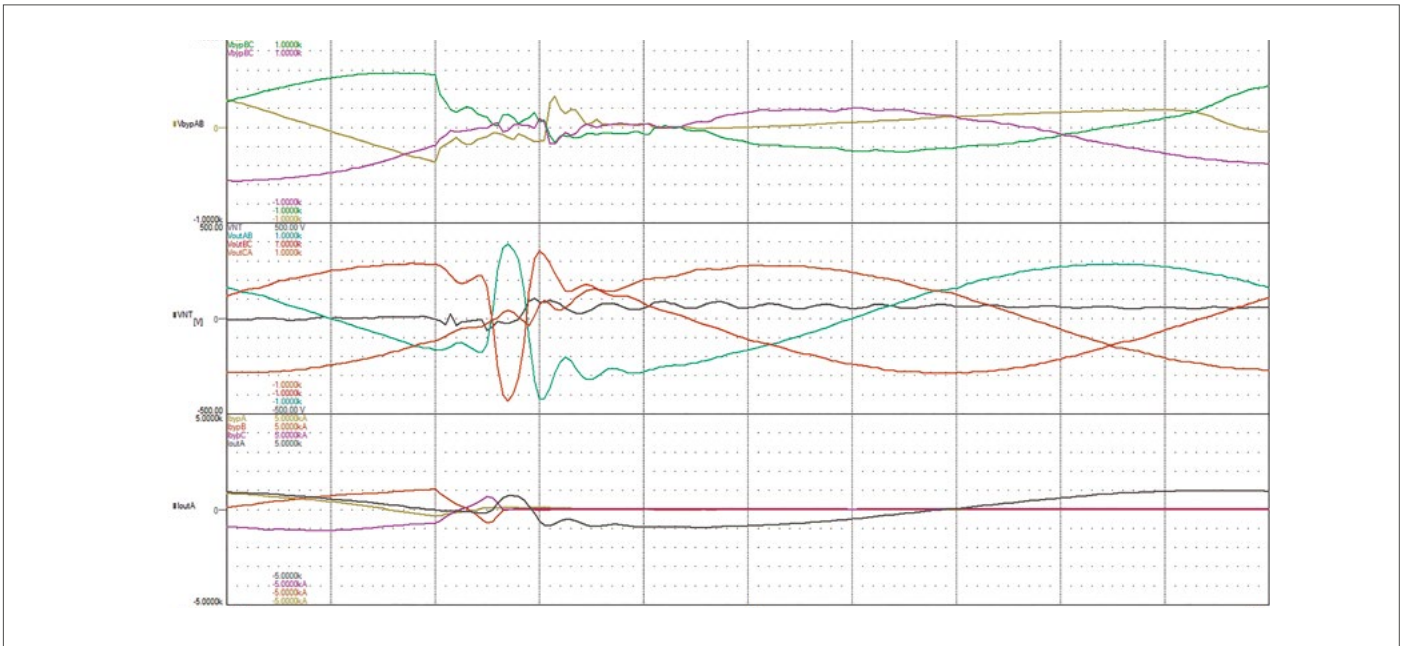

Figure 6. Upstream short in VI mode. From top to bottom: bypass input voltages, inverter output voltages, bypass and output currents. Time 2ms/div.
Figure 6 illustrates how the Trinergy Control handles an upstream short circuit with high efficiency mode (VI) enabled.